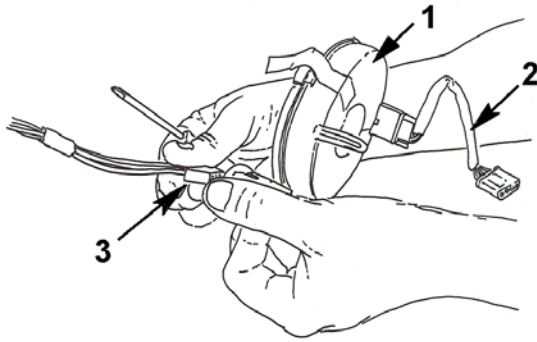

Figure 76 Clock Spring Assembly With Harness
1. Disconnect the clock spring harness from the dash harness (Figure 76, Item 3).